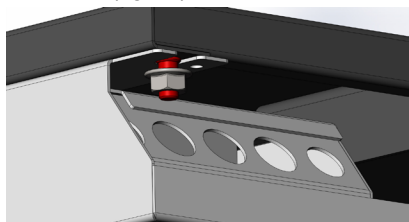

fig.4.2
Step2: Loosen the fixing screws of the backside cover to a frame of the heater at two sides. (fig.4.2)